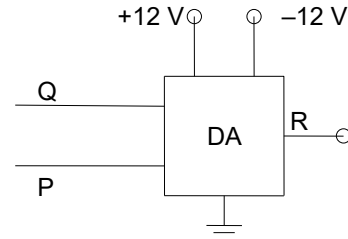

Fig. 1 Difference Amplifier
A difference amplifier has two inputs (P and Q) and one output (R) as shown in Fig. 1. It is possible to design a DA such that its output voltage V_R is equal to the difference of the two input voltages V_Q and V_P . That is, $V_R = V_Q - V_P$.